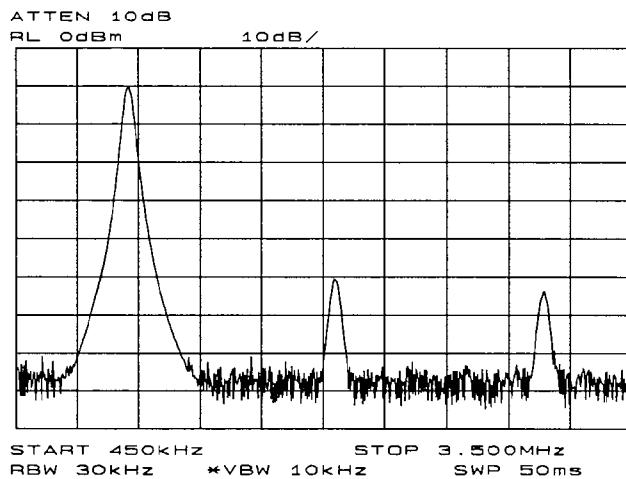

Figure 3-1. Input Signal and Harmonics
1. For measuring the 1 MHz fundamental and its first two harmonics, set the start frequency to 450 kHz and the stop frequency to 3.5 MHz. This displays the fundamental frequency and the second and third harmonics as shown in Figure 3-1. To improve visibility, smooth the noise by pressing [BW] and then [VIDEO BW AUTO MAN] until MAN is selected. Now use the step down [▼] key as desired.